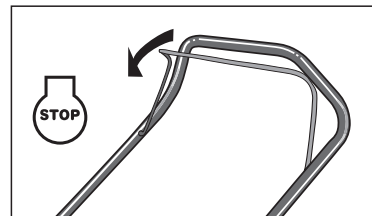

Fig.12
1. Release the brake control handle to stop the engine and blade. (Fig.12)